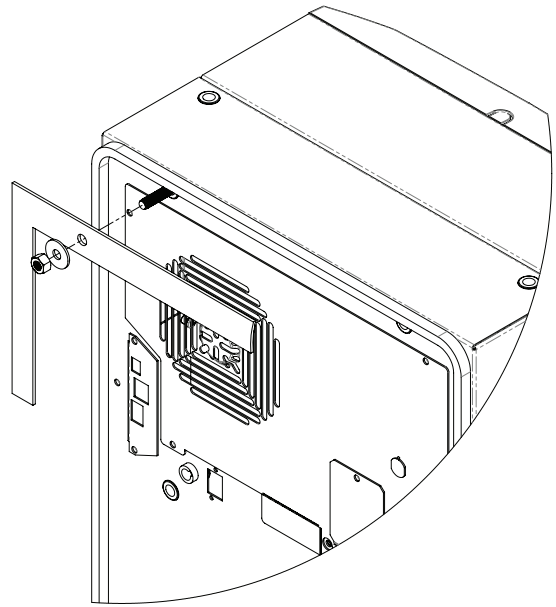

Figure 2
2. Screw the supplied grub screws into the blind nuts on the rear of the unit, see Figure 2.